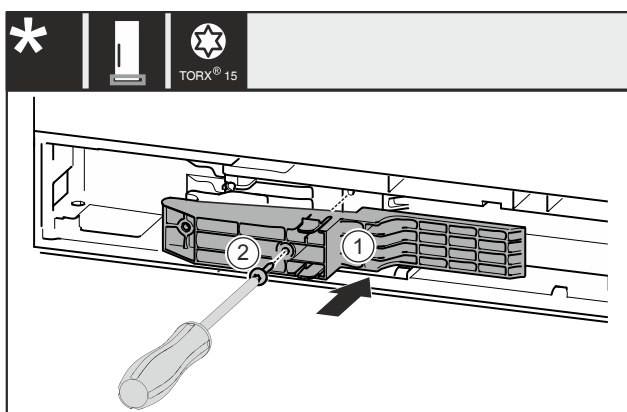

Fig. 52 *
- ▶ 将把手侧的适配器 Fig. 52 (1)插入凹槽。*
- ▶ 将螺钉 Fig. 52 (2)用螺丝刀拧紧。*